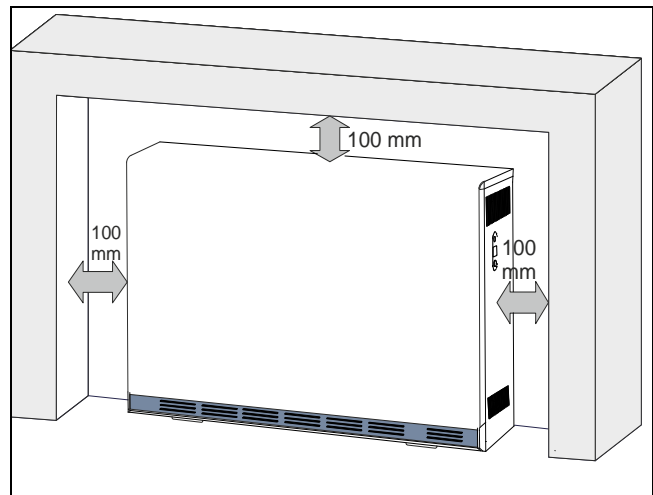

Fig.3: Minimum spacing on sides
- You must comply with the minimum spacings described. (Fig. 3)